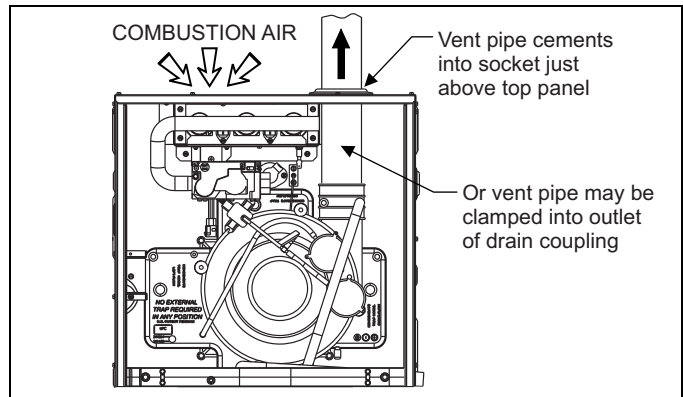

FIGURE 41: Combustion Airflow Path Through The Furnace Casing
2. **AMBIENT COMBUSTION AIR:** Combustion air is supplied from the area surrounding the furnace through openings in the furnace casing. The combustion air and the vent pipes are not terminated in the same atmospheric zone. Refer to Figure 33 for vent terminations. Refer to "Ambient Combustion Air Supply" for proper installation. Refer to Figure 41.